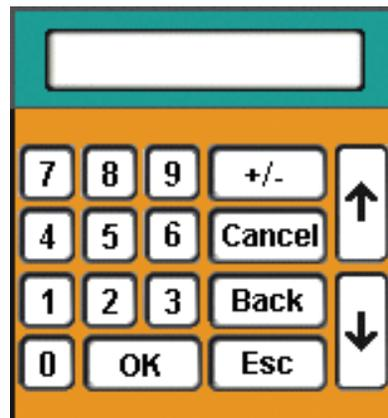

Figure 6.11: Keypad
- b. To change the address numbers touch each individual numerical field. A pop-up keypad, Figure 6.11: Keypad will appear each time a field is accessed.